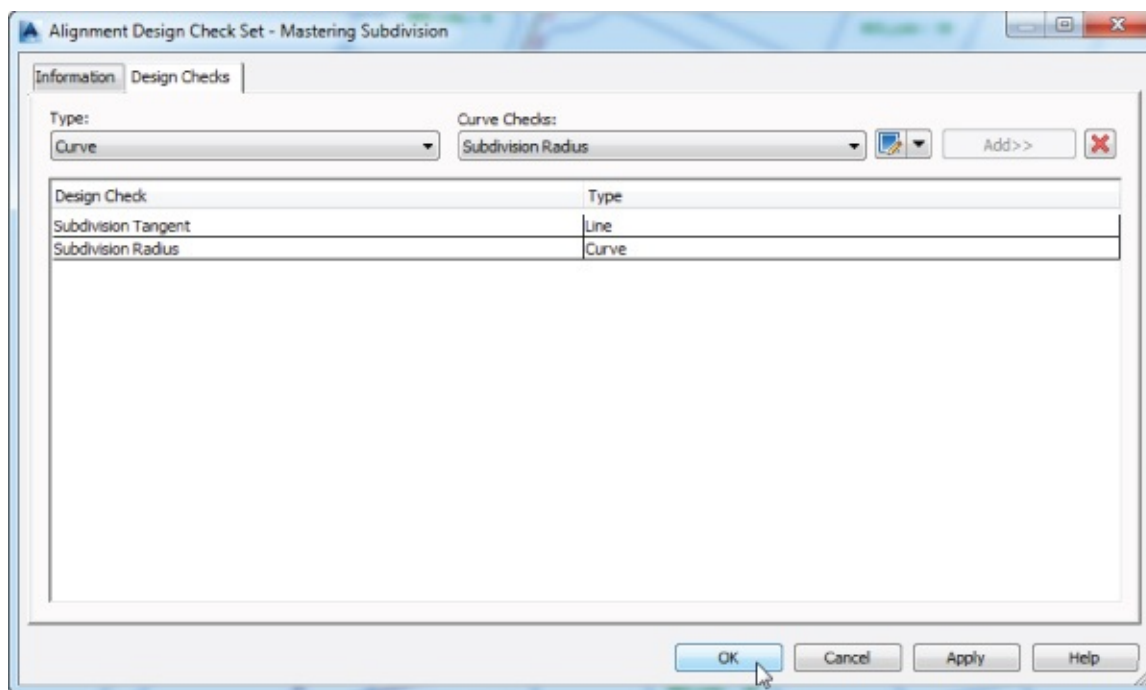

Figure 6.26 The completed Mastering Subdivision design check set
7. Click the Add button again to complete the set, as shown in Figure 6.26.